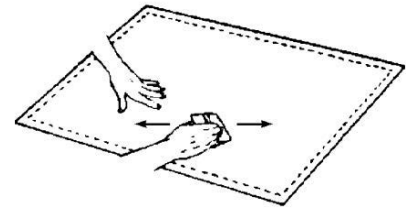

Figure 4. Squeegee the Graphic and Application Tape
3. Squeegee the graphic from the liner side to adhere it to the application tape. Work from the center of the graphic out. See Figure 4.